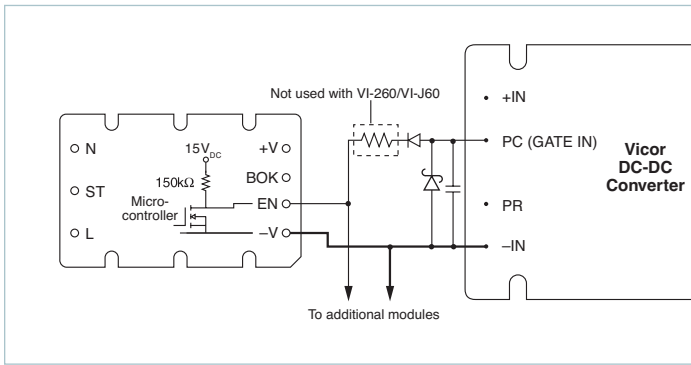

Figure 7.4 — Enable (EN) function
Enable (EN) Pin: (Figure 7.4) The Enable pin must be connected to the PC or GATE IN pin of all converter modules to disable the converters during power up. Otherwise, the converters would